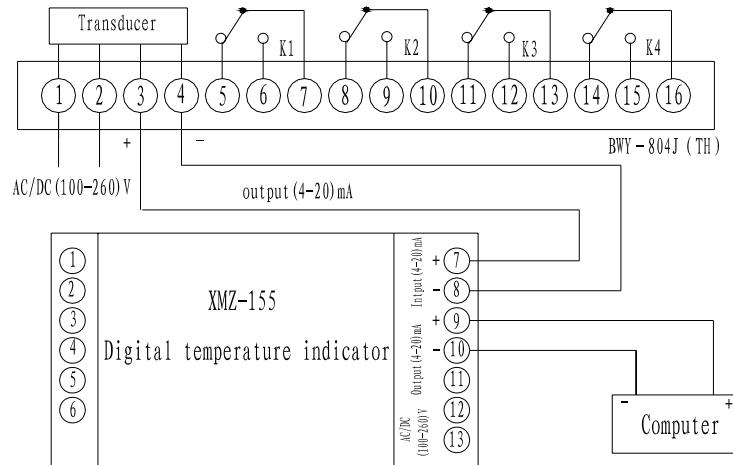

Figure 3: Connection Diagram
- Figure 3. Connection Diagram ..... ( 6 )**
5.5 Open the cover of instrument by taking out 4 M6 crews on it, and then connect wires according to Figure 3.